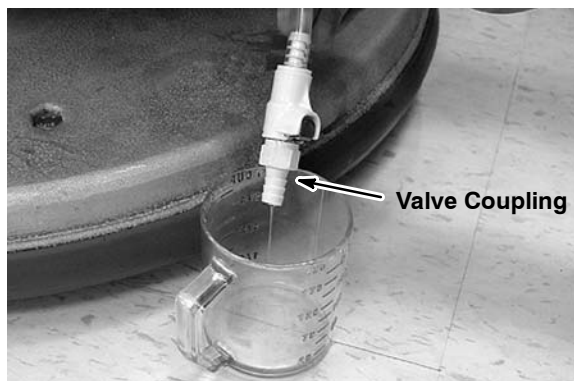

FIG. 58
- Disconnect the opposite end of the FaST supply hose at the white check valve and drain the detergent from the hose (Figure 58). Reconnect the check valve after draining. To access the injector assembly remove the front shroud.